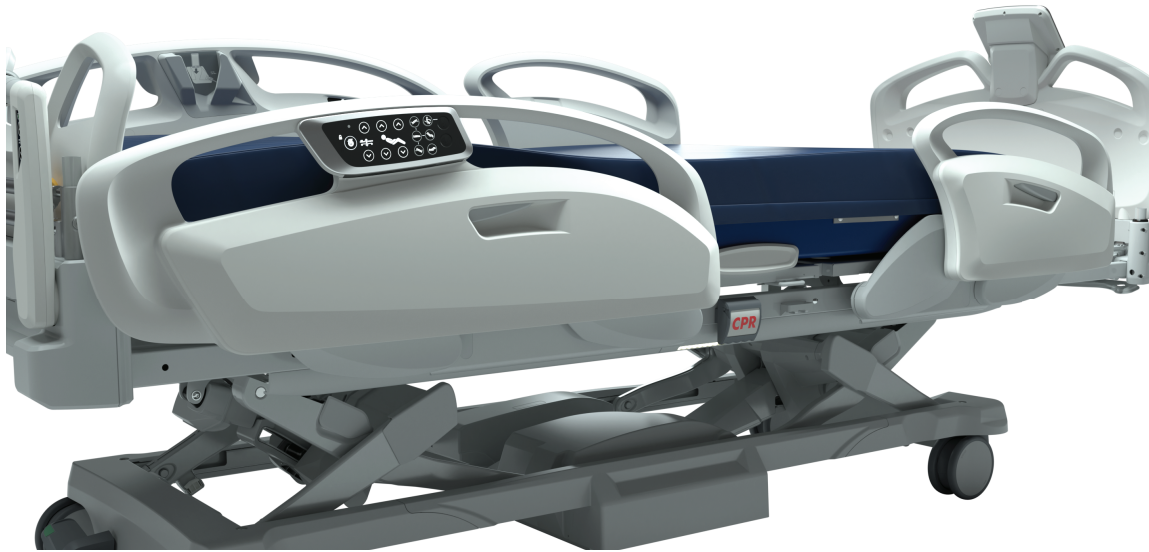

Figure 18 – Siderail intermediate position
- To raise the siderail to the intermediate position, grasp and rotate the siderail up from the lowest position until you hear the siderail click (Figure 18).
- To lower the siderail to the intermediate position, press the siderail release (N) (*Product illustration* (page 13)) and rotate the siderail forward until the siderail stops at the intermediate position (Figure 18).